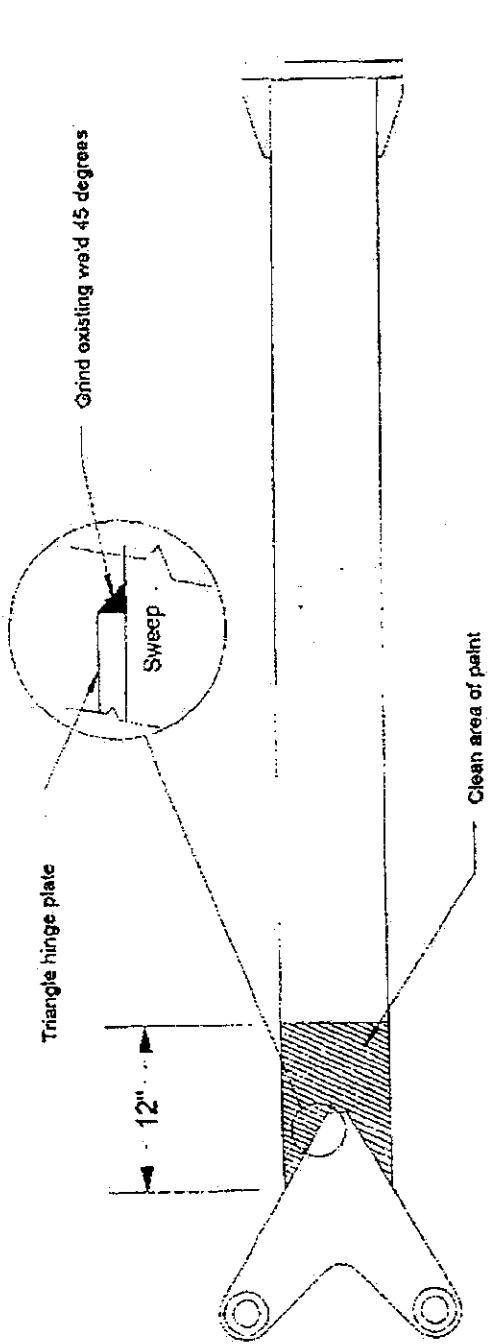

Figure 1
- Step 4: Clean off paint and around where edge of gusset plate will be welded to sweep (see fig.1, drawing SOSA010C).
- Step 5: Grind weld around triangle hinge plate (See figure 1 Drawing SOSA010C) so weld is about 45°.
- Step 19: Taper weld from side point of top plate to side gusset as described in figure 1 drawing SOSA010E.